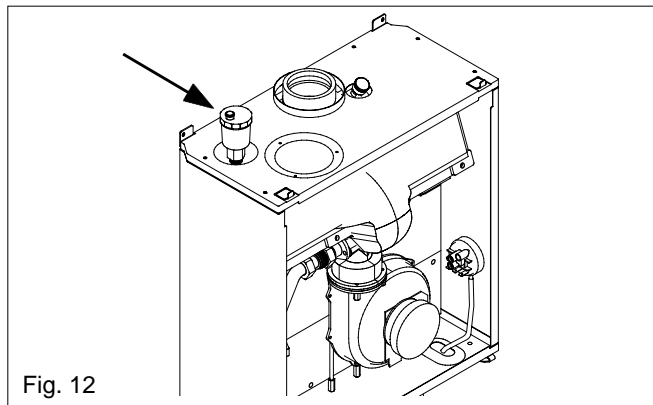

Fig. 12
Mount the AAV as shown in fig. 12.
**5.3.1.** Ensure both flow and return service valves are open, identify the automatic air release valve (fig. 12) and loosen the dust cap by turning the cap anti-clockwise one full turn.